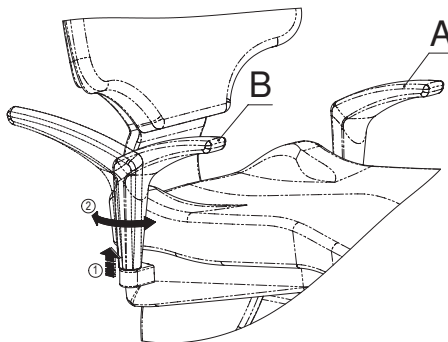

Fig. 19
To rotate the optional armrest (B), it must be pulled upwards (kept in its housing) until the rotation mechanism is released, allowing it to be turned until reaching the track limit where it stops. To return the armrest to its initial position, simply lift it and turn it inside until it locks automatically (Fig. 19).